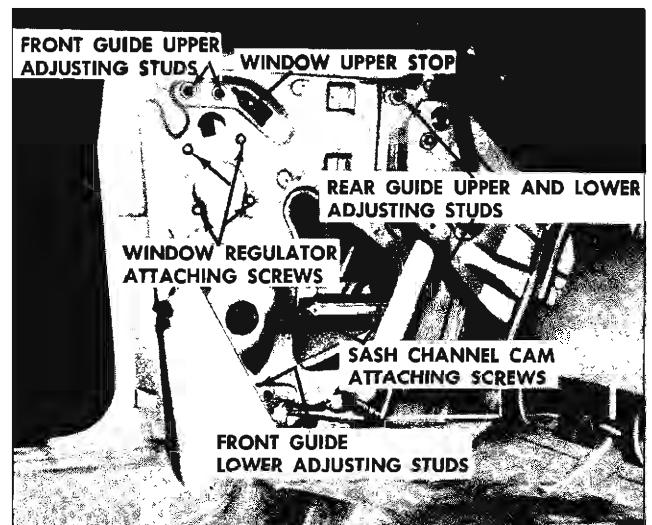

Fig. 13-6 Rear Quarter Hardware - 67 Styles
3. Loosen rear guide adjusting stud nuts (Fig. 13-6).
4. Operate window to full-down position and remove lower sash channel cam attaching screws (Fig. 13-6).
2. With window in full-up position, remove rear guide upper and lower adjusting stud nuts (Fig. 13-6).
2. Remove front guide upper and lower adjusting stud nuts (Fig. 13-6).
2. Lower window to full-down position and remove sash channel cam attaching screws (Fig. 13-6). Disengage cam from roller on regulator lift arm and remove sash channel cam.
3. Remove window regulator attaching screws (Fig. 13-6) and remove regulator through access hole.
4. Remove regulator attaching screws (Fig. 13-6) and remove regulator through access hole.
2. To adjust window fore or aft, loosen front and rear guide adjusting stud nuts (Fig. 13-6). Position window and guides fore or aft as required; then tighten adjusting stud nuts.
3. To adjust window in or out at belt line, loosen front and rear guide upper adjusting stud nuts (Fig. 13-6). Adjust studs in or out as required; then tighten adjusting stud nuts.
4. To adjust top of window in or out, loosen front and rear guide lower adjusting stud nuts (Fig. 13-6). Adjust studs in or out as required; then tighten stud nuts.
5. To relieve a fore and aft binding condition between front and rear guides, loosen front and rear guide adjusting stud nuts (Fig. 13-6). Operate window to full-up position and tighten front and rear guide upper stud nuts. Operate window to full-down and tighten remaining stud nuts.
6. To limit forward and upward travel of window, adjust regulator lift arm stop as required (Fig. 13-6).